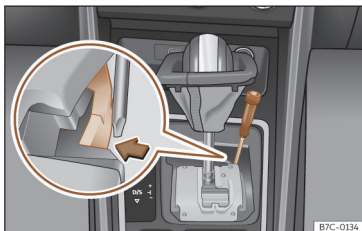

Fig. 142 Gear selector lever: manual release from the parking position.
- Using the flat part of a screwdriver, press the yellow tab sideways and keep it pressed down >>> **Fig. 142**.